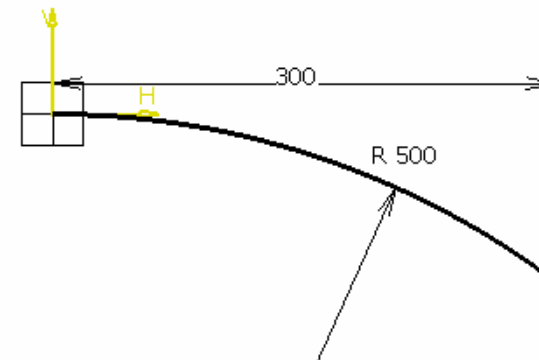

Fig.1
(1) Start/Shape/Generative Shape Design
(2) To make a Sweep surface:-
- Draw an **arc** (R500) with one end (0,0) as shown in Fig.1